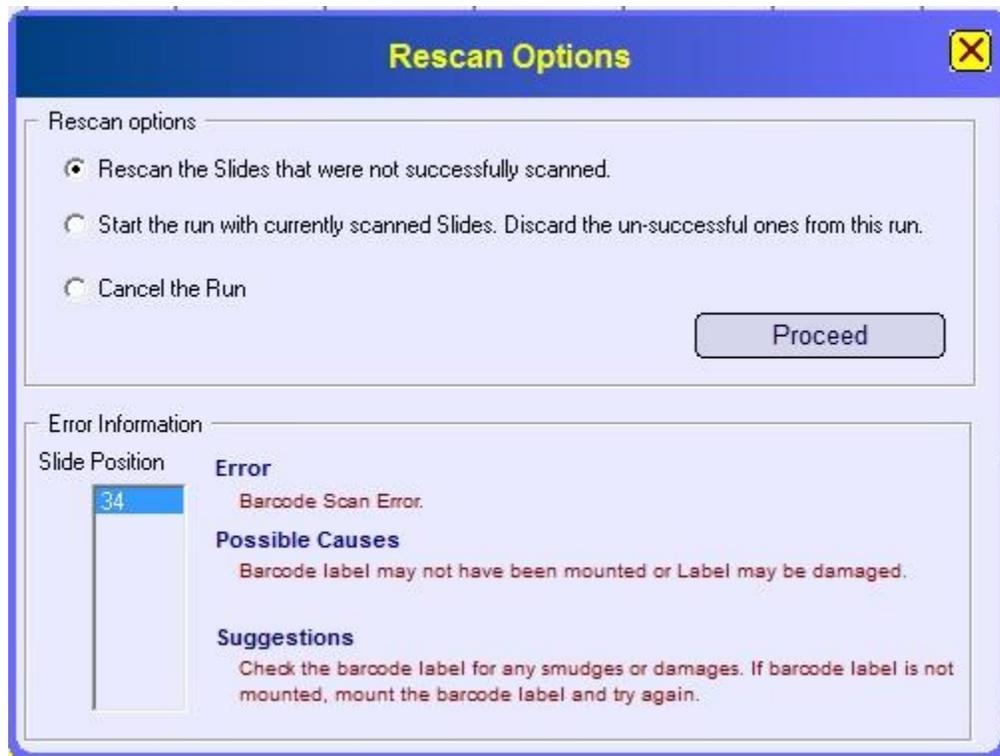

Figure 21 :< Rescan Options> window
3. Improper pasting or damaged labels can cause an **Error** while scanning the slides. Wait for the **<Rescan Options>** window to open (Figure 21). The user can select an appropriate option from the following: